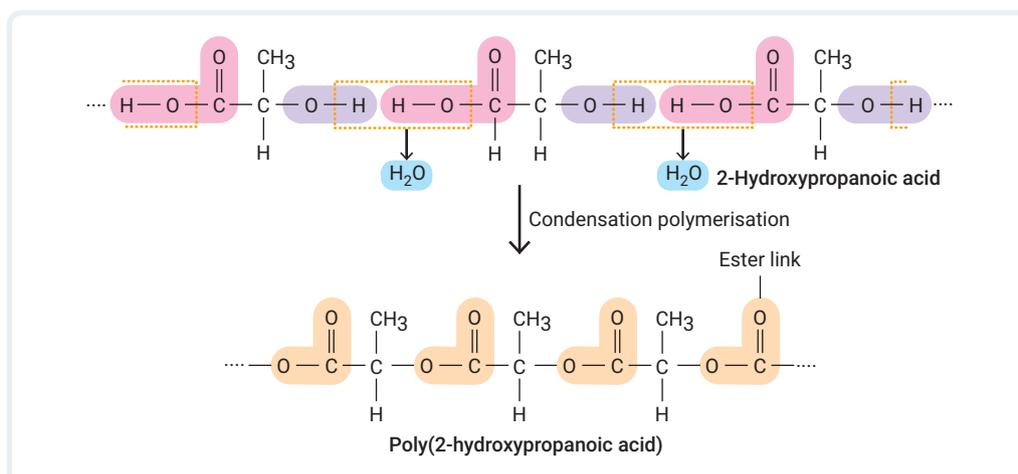

FIGURE 18.2.1 A general condensation reaction to form a polyester
- a single monomer that has a hydroxyl ($-\text{OH}$) functional group at one end and a carboxyl ($-\text{COOH}$) functional group at the other (**Figure 18.2.1**)
The general production of a polyester from a monomer is shown in Figure 18.2.1. The monomers must be aligned so the hydroxyl and carboxyl acid groups are next to each other.